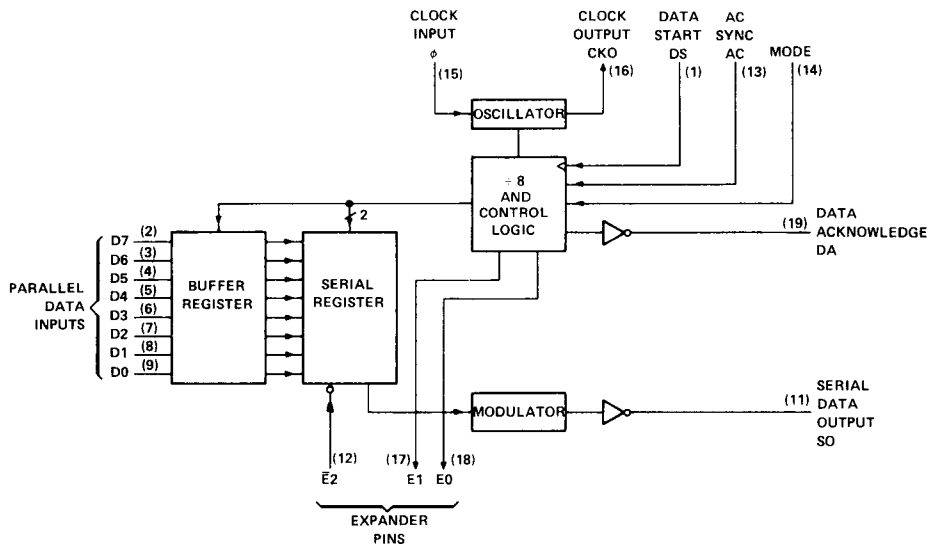

FIGURE 6-SN74LS462 FUNCTIONAL BLOCK DIAGRAM
When power is first applied to the transmitter, power-up circuitry causes the data acknowledge (DA) output to go active (high) indicating that the buffer register is empty and ready to accept data. (See Figure 6). Parallel loading of the data present on the D0-D7 input pins is accomplished by taking the data start (DS) input high when the data acknowledge is high. Loading will then occur on the rising edge of data start. The parallel data loaded into the buffer register appears at the inputs of the shift register. Approximately 250 nanoseconds after the rising edge of data start, data acknowledge (DA) goes inactive (low). Simultaneously, control logic sends out a pulse to the shift register, and the shift register loads the data from the buffer register. After this operation is complete, data acknowledge once again goes active (high) to indicate that the buffer register is ready to accept new data. The new data now present on the D0-D7 data lines will be entered into the buffer register upon the occurrence of the next low-to-high transition of data start. The shift register begins shifting data, one bit at a time, into the modulator where it is encoded into FSC format and output on the serial output (SO) pin. After the eighth bit has been transmitted, further operation depends upon the mode of operation selected by the MODE and ac-sync (AC) inputs. (See Table 1). If the continuous-data-stream mode is selected, the next eight bits are loaded into the shift register from the buffer register and shifting of the data continues without interruption. In the dc-sync mode, the two-bit synchronization period will be inserted between consecutive transmissions. In the